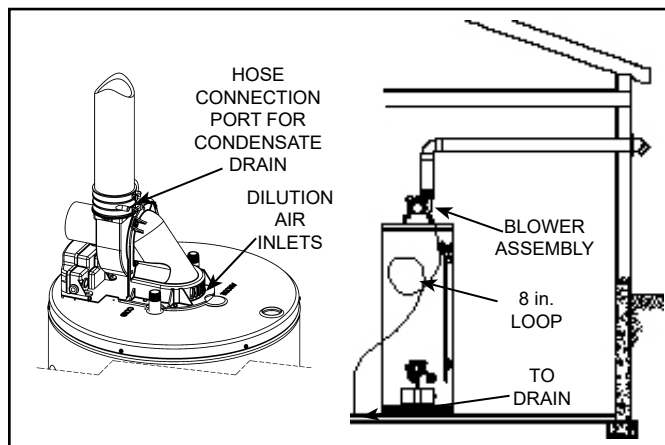

Figure 30.
1. This power vented water heater comes with blower assembly installed (see Figure 30).
Condensate formation does not occur in all installations of power vented water heaters, but should be drained on installations where it can form in the venting system. Condensation in the venting system of power vented water heaters is dependent upon installation conditions including, but not limited to, ambient temperature and humidity of installation location, ambient temperature and humidity of venting space, vent discharge and slope, and product usage. In certain conditions, installations in unconditioned space or having long horizontal or vertical vent runs can accumulate condensate. Long lengths of venting that pass through cool/cold areas will experience condensation. The vent pipe should be sloped upwards away from the blower assembly, then adequate means for draining and disposing of the condensate needs to be made by the installer. If installation conditions cause condensation, install a condensate trap loop approximately 8 in. in diameter using 3/8 in. plastic hose. Connect the hose to the built-in drain port of the rubber coupling of the blower assembly (see Figure 30). Loop the hose in a vertical position as shown. The tube loop must be filled with water at least half way prior to operating the heater. Ensure the end of the tube has access to a drain as condensate will flow from the end. Secure the tubing to the side of the heater. Prior to operating the water heater, make sure